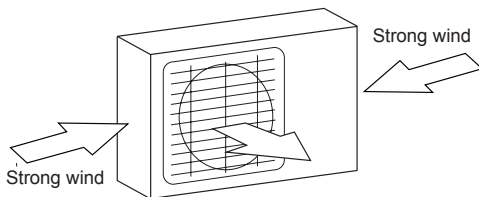

Fig. 5.1
- ∅ If the location is exposed to strong winds (for example: near a seaside), the unit must be placed against the wall to shelter it from the wind. If necessary, use an awning. (See Fig. 5.1 & 5.2)